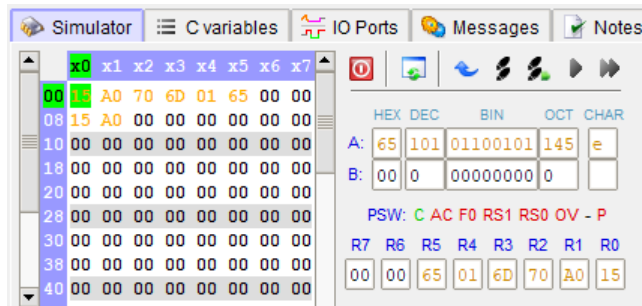

Figure 1: MCU 8051 IDE Simulator Interface
For this part, you do not need to show your result on the LCD of the Proteus or take inputs from the keypad of the Proteus. You will show your results on the MCU 8051 IDE simulator ONLY. (See Figure 1)
Show your results (i.e., quotient in registers R4, R3 and remainder in register R5) after the simulation ends (see Figure 1).
- See Figure 1 for the result of this example. You can observe register values after the simulation ends. You will show your results similarly.